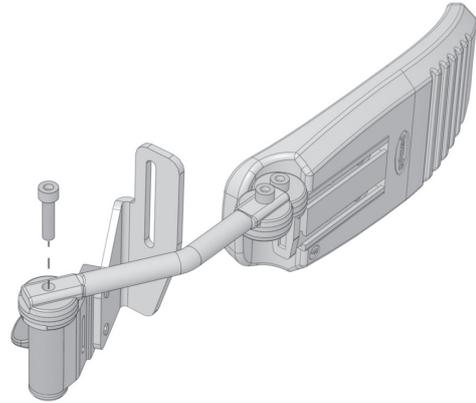

Fig. 12. Mounting of Trunk Support Arm.
1. Adapt the Trunk supports by turning the Trunk Support arm 180°. The arm is mounted with one screw. Mount according to fig. 12.